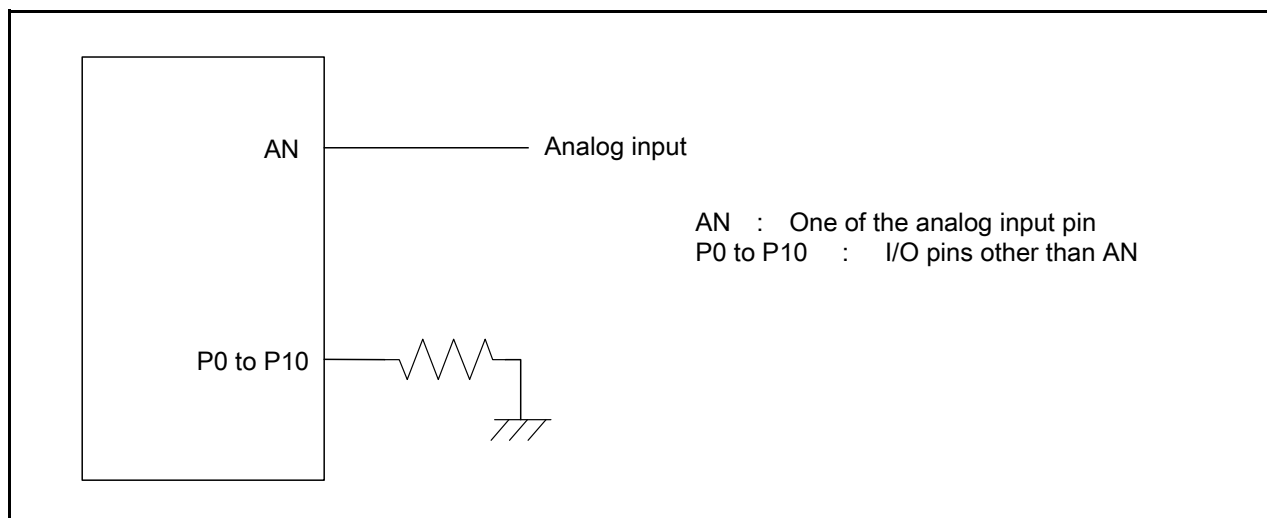

Figure 5.2 A/D accuracy measure circuit
4. Flash memory rewrite disabled. Except for the analog input pin, set the pins to be measured as input ports and connect them to  $V_{SS}$ . See Figure 5.2 "A/D accuracy measure circuit".